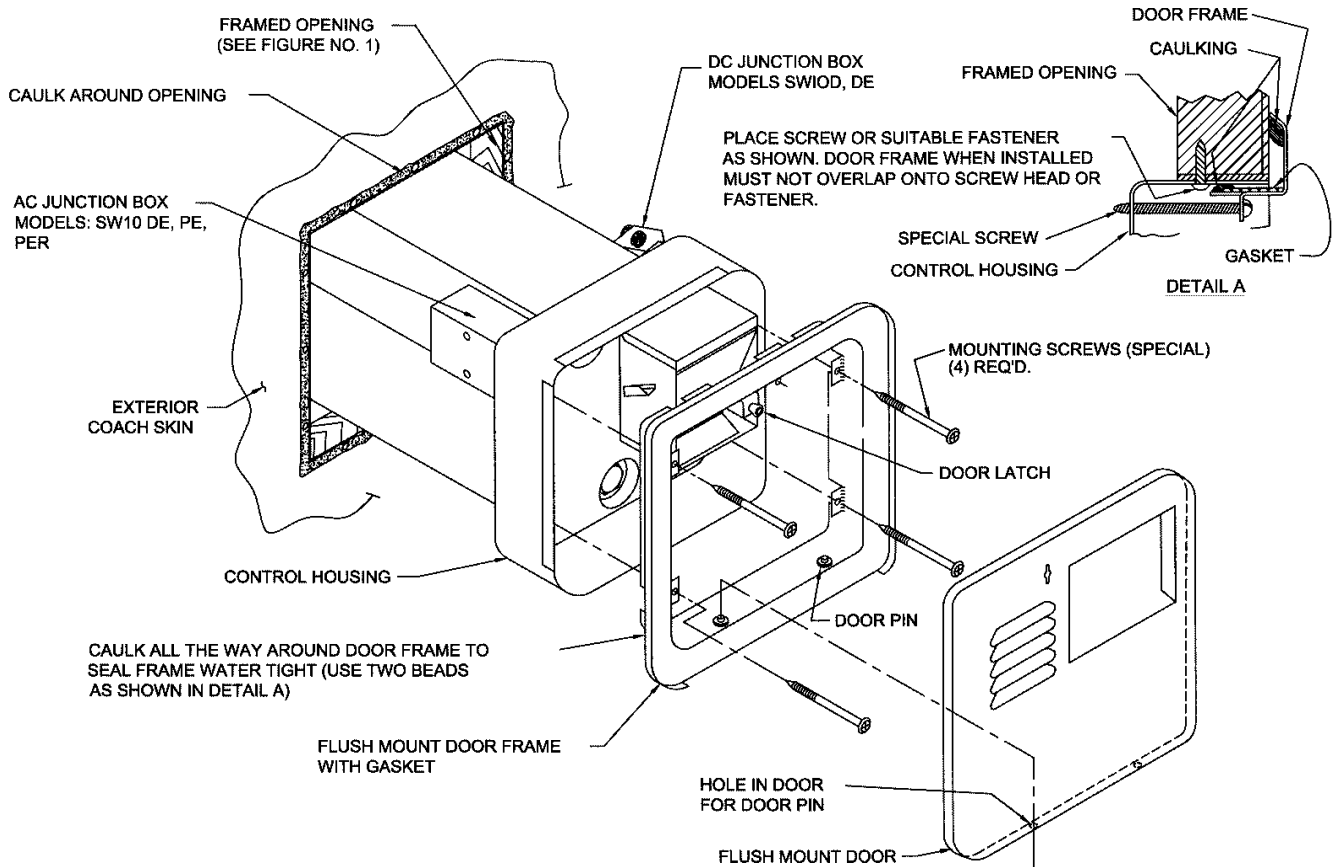

Figure 2
(See Figure 2 for Illustration)
B. Refer to Figure 2 for location of A.C. junction box.